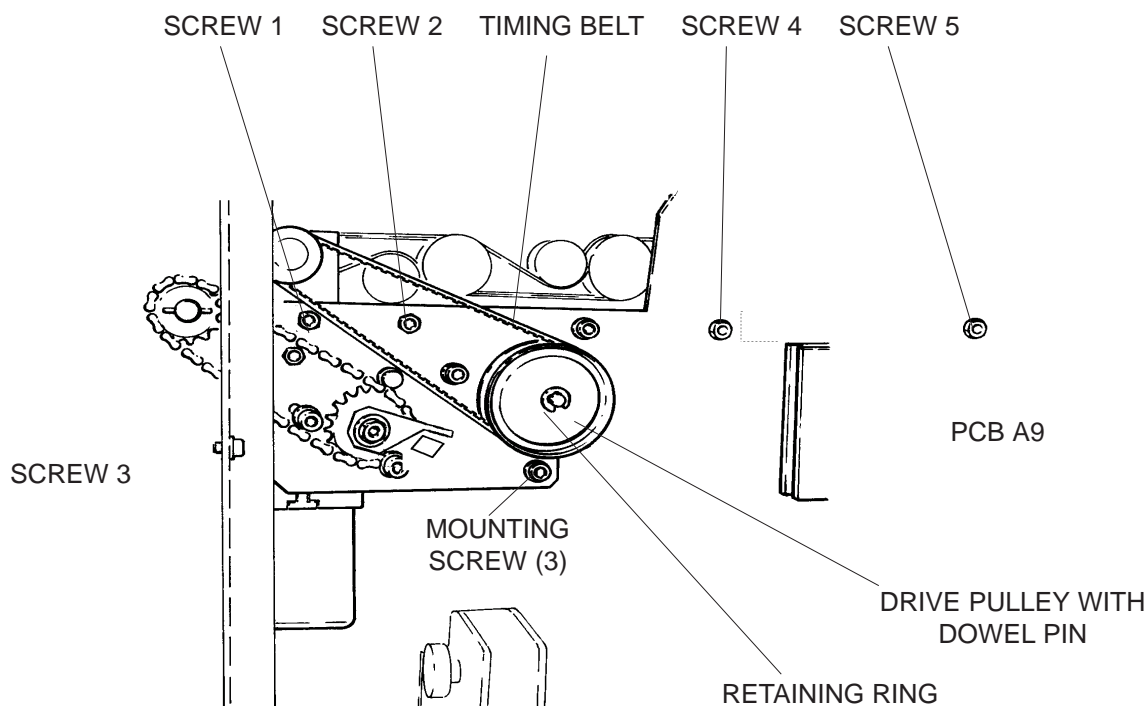

figure 2-15
4. Loosen SCREWS 1, 2 and 3. See figure 2-15.
5. Take out SCREWS 4 and 5. See figures 2-15.